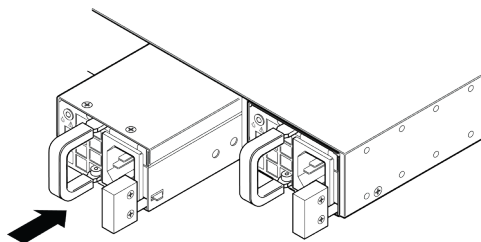

Figure 292: Installing a Summit AC Power Supply (770 W Model Shown)
4. Carefully slide the power supply all the way into the power supply bay, as shown in Figure 292.